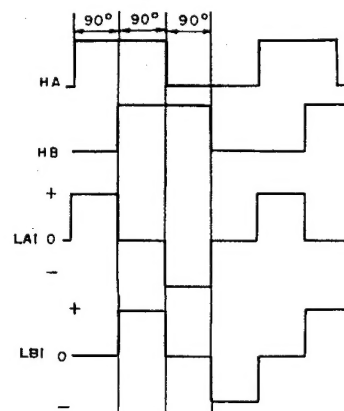

Fig. 10-15 Drive Circuit Waveforms
2. The position detection signals from the Hall elements are input into the position signal compound circuit shown in the block diagram and waveform shaping takes place as indicated in Fig. 10-15.
3. The waveform-shaped step waves are input into the four-phase drive circuit shown in the block diagram. The duty 90 voltage like that shown in Fig. 10-15 is switched alternately between LA and LB, causing the motor to turn.